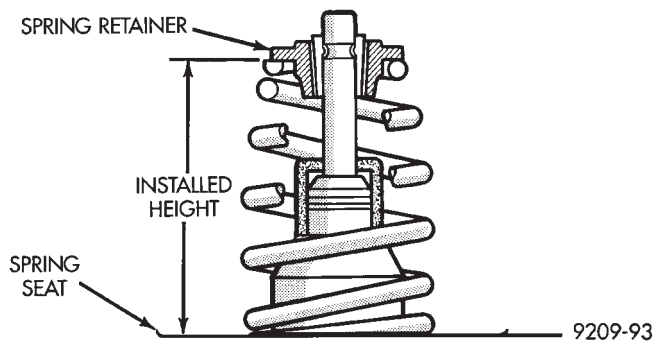

Fig. 22 Checking Valve Spring Installed Height
(5) Check the valve spring installed height after refacing the valve and seat (Fig. 22).
(6) When the valves and/or seats are reground, measure the installed height of springs, make sure measurements is taken from top of spring seat to the bottom surface of spring retainer. If height is greater than 1-19/32 inches, (40.6 mm), install a 1/32 inch. (0.794mm) spacer in head counterbore to bring spring height back to normal 1-17/32 to 1-19/32 inch. (39.1 to 40.6 mm)